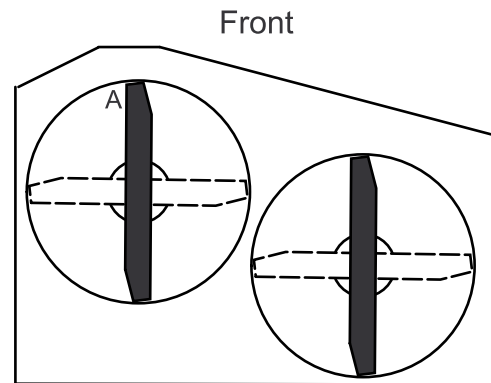

Figure 59
- With the machine on level surface, position one blade front-to-rear. Measure at **A** and from level surface to the cutting edge of the blade tips (Figure 59).